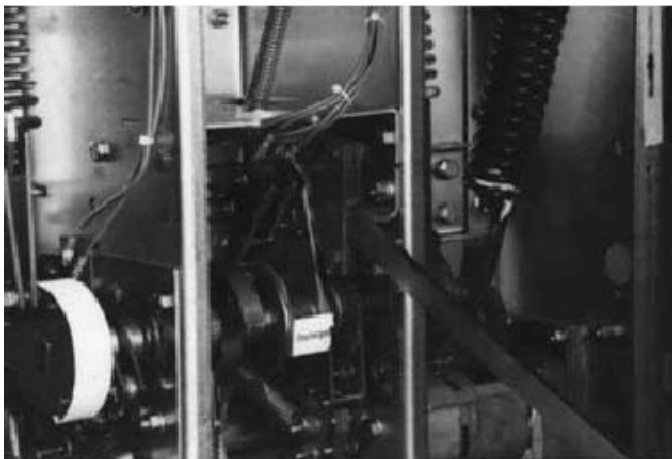

Figure 6-11 Manually Charging Closing Springs
Step 7 - Charge the closing springs with the maintenance tool. Continue charging the closing springs until a "click" is heard and the status indicator shows **"Charged"** (Figure 6-11).